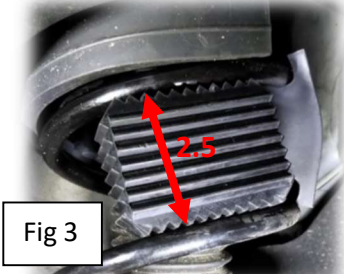

Fig 3
5. Installed RB45-3-25, RB35-25-125 or RB275-2-175 (paired with CSBPro-AP) – Fig 3/3a/4